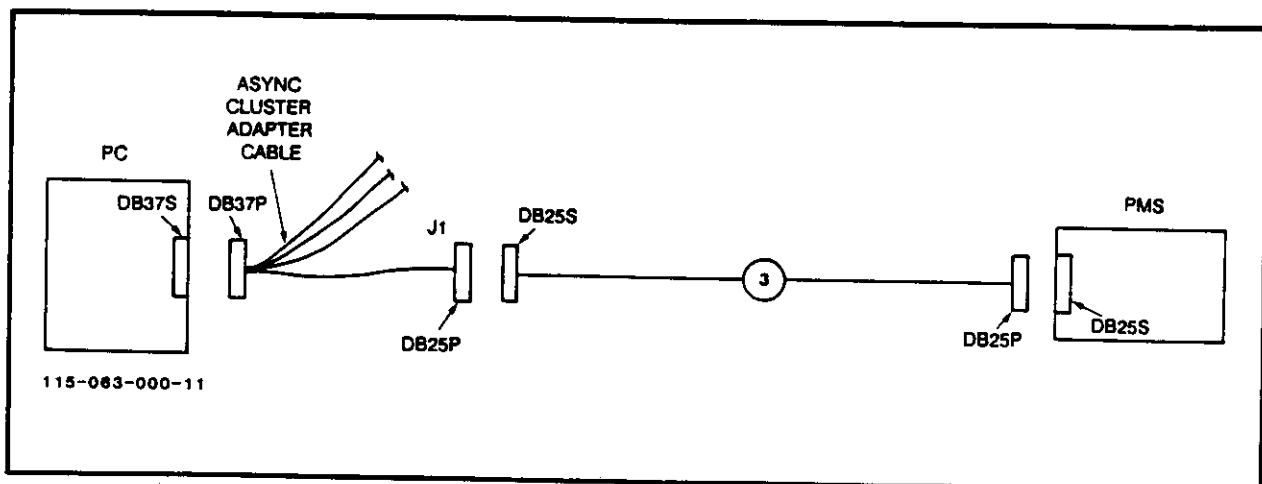

Figure 3-19. Local HOBIC Connection
11.01 If you have a local cable kit, refer to Figure 3-19 and follow these steps.